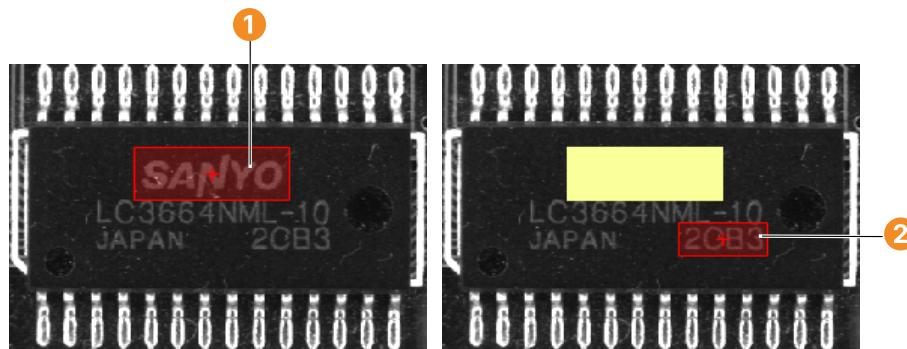

Figure 6.75: Drawing ROI rectangles.
You can modify the rectangle by dragging its sides or corners. Make the rectangle match the big label on the chip (see figure 6.75 ①).
- Repeat the last step to create another rectangle and make it match the lower part of the label (see figure 6.75 ②).